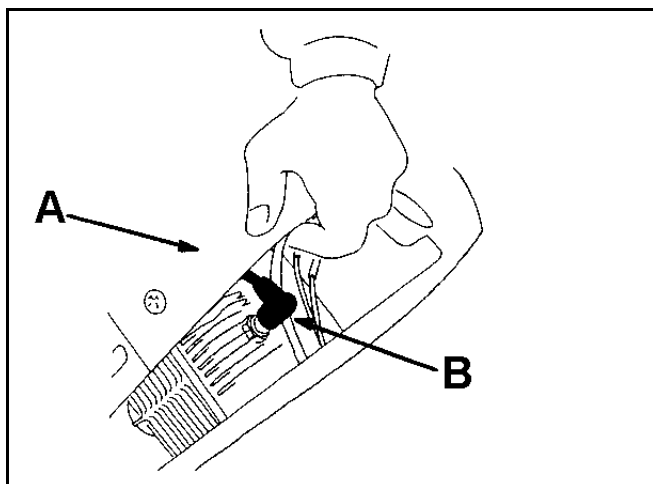

Figure 89
3. Lift up the shroud and disconnect the wire from the spark plug (Figure 89).
5. Remove the spark plug (Figure 89).